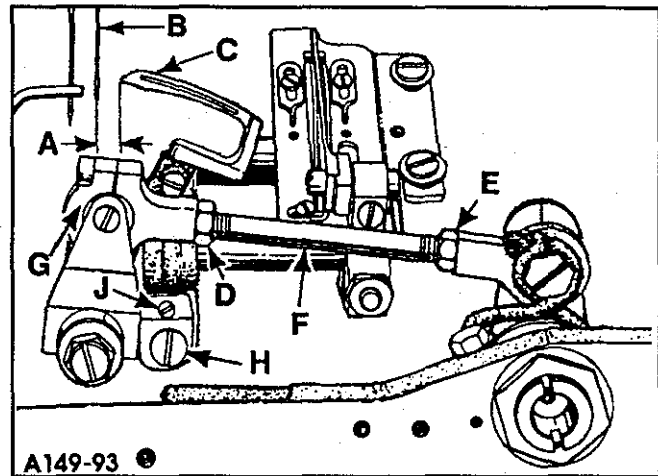
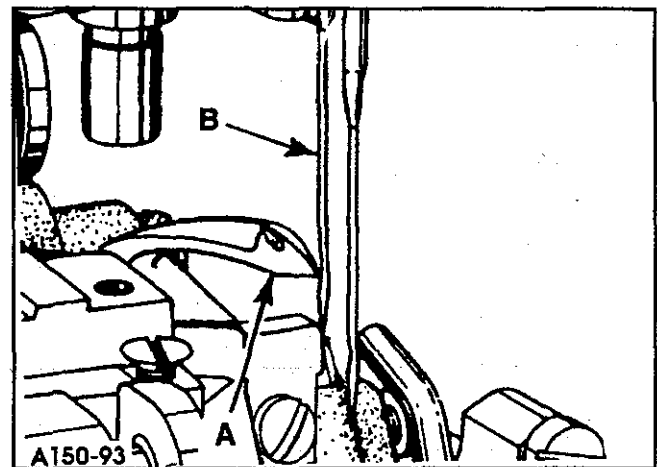

FIG. 9
FIG. 10
insert a new set of needles of type and size required into right needle seat. Turn hand wheel in operating direction until looper is at its extreme right end of travel. Looper gauge (A, Fig. 9, see Table II for dimensions) is the distance between centerline of right needle (B) and point of looper (C).
While turning handwheel in operating direction, as the looper (A, Fig. 10) moves to the left its point should be set to brush but not pick at the REAR of RIGHT needle (B). Adjustment can be made by loosening screw (H, Fig. 9), turn stop screw (J) clockwise to move looper towards the rear, counterclockwise acts the reverse. It is suggested to hold looper towards the front while making this adjustment. Tighten screw (H) after adjustment has been made and recheck movement of looper.